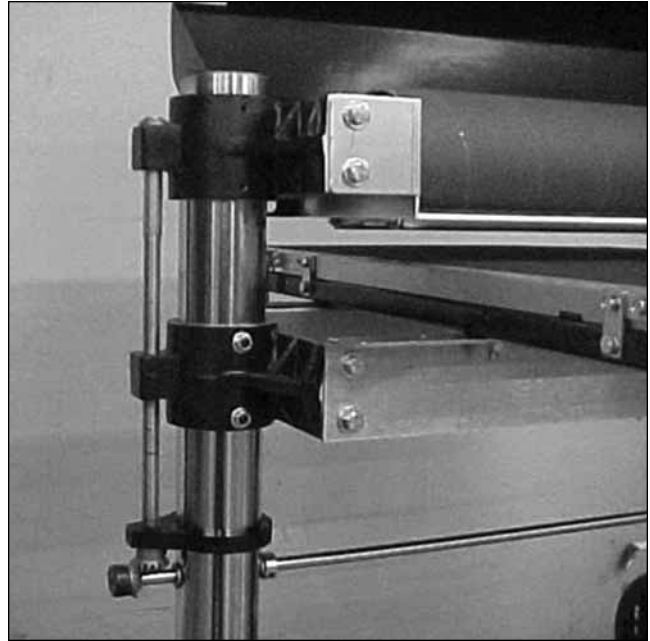

Fig. 22. Height controls on outboard side.
6. Next, check the position of the height adjusting screw rods. First raise the conveyor table. Then check the E-clip and washer at the top of the height adjusting screw on the left (outboard) side (Fig. 22), and under the height adjustment handle on the right (inboard) side of the machine. On both sides, the washer and E-clip (or washer only) should be snug on the casting just below the washer. If there is a space between the washer and the casting, tighten one set screw in each of the table support castings. If one height adjusting screw is loose, remove the miter gear from the cross bar on that side. Turn down the threaded height adjusting screw rod until it is snug with the washer. Make sure both sides are snug on top. Reinstall the miter gear and tighten. Loosen the set screws in the table support castings and test for smooth operation.